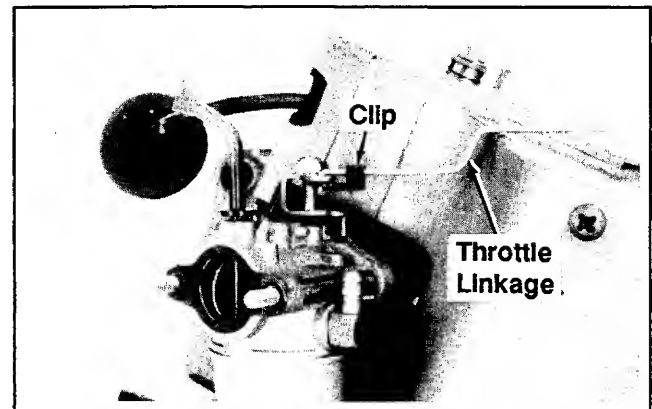

Figure 9-8. Removing Carburetor.
1. Remove the throttle linkage from the throttle lever clip. See Figure 9-8.